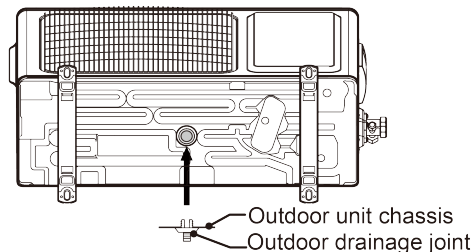

Figure 5-3 Drainage pipe connection
- (3) If a canopy is to be installed for the outdoor unit, note that the heat dissipation and absorption should not be affected.
- (4) The outdoor unit must be installed in the host places a solid foundation, and ensure that the outdoor unit is installed upright, and fastened with foundation bolts. If the vibration is strong, add rubber gaskets to prevent vibration.
- (5) Condensate drain of the outdoor unit: buckle snap the drainage joint of the outdoor unit into the drainage hole located in the middle of the chassis, as shown in Figure 5-3, and ensure reliable and tight fitting. Then, connect the drainage pipe to the drainage mouth, and guide the drainage pipe to a proper place for drain.